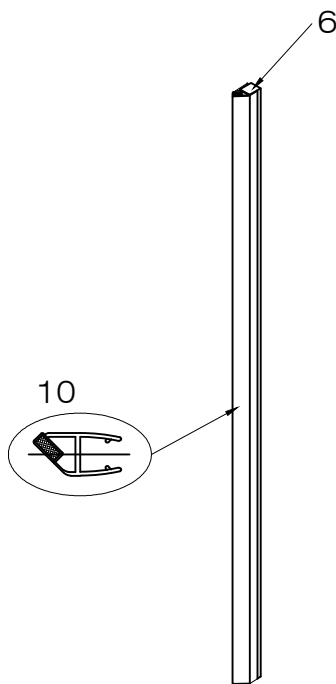

FIG.6
1. Install the door magnetic seal strip (#10) to the vertical track (#6) leaving a 1/16" gap at the bottom. [SEE FIG.6] The vertical track (#6) and the door magnetic seal strip (#10) are the same length.